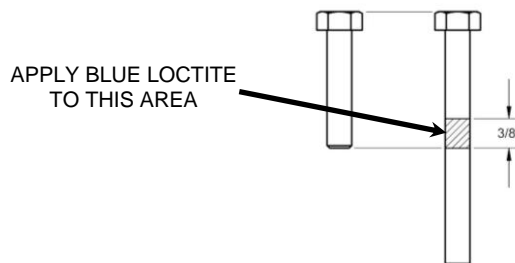

FIGURE 2
3. Mark the length of the old short hex bolt on the supplied longer hex bolt. Apply blue loctite to 3/8" of the screw threads of the supplied longer bolt above this mark so that the loctite will engage into the threads of the frame. See **FIGURE 2**.